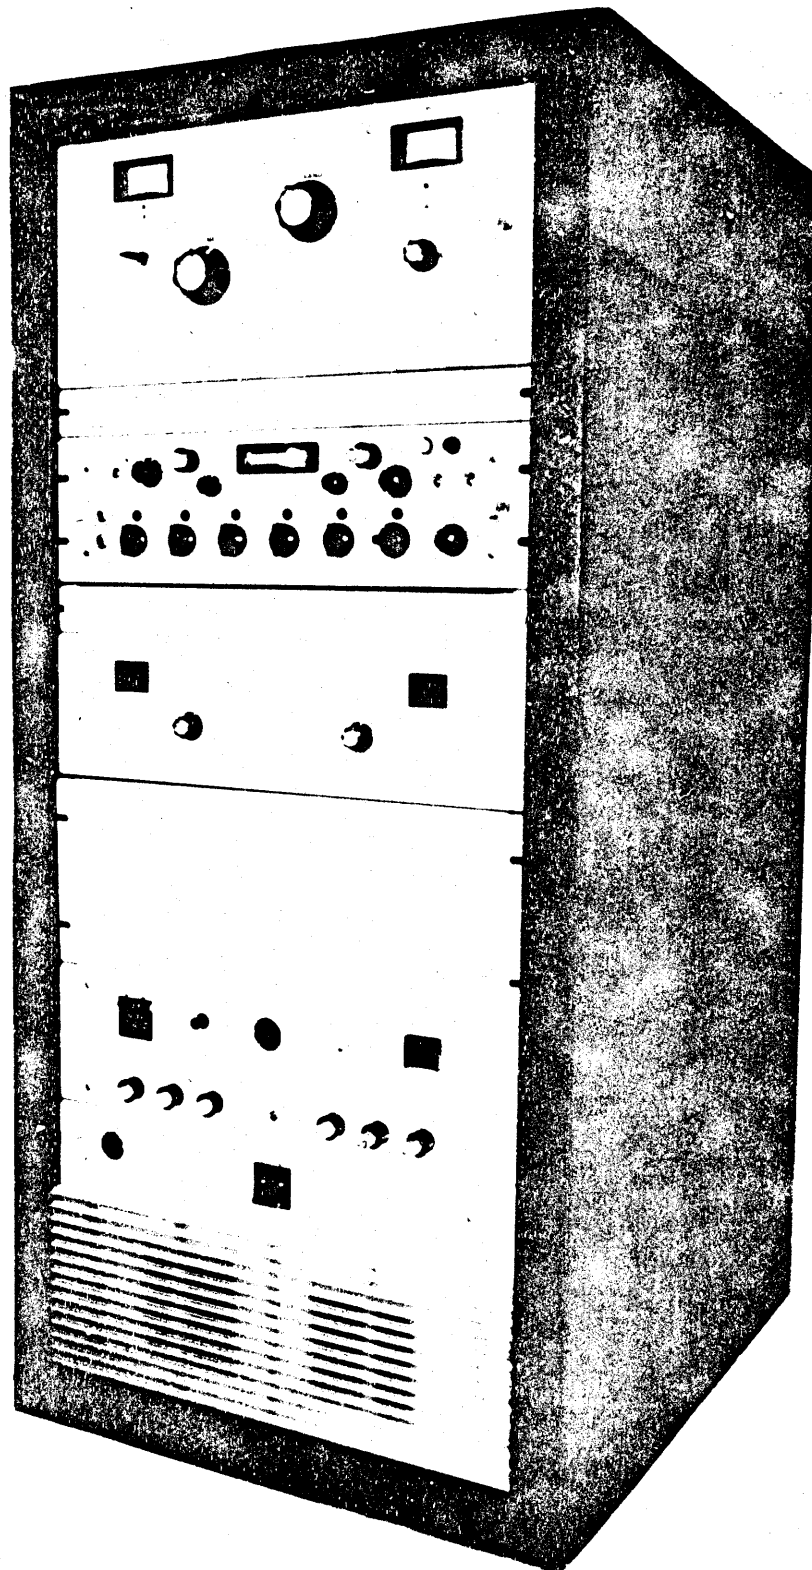

Figure 1-1. HFTA-1KJ2
The HFTA-1KJ2 shown in figure 1-1, is an automated one kilowatt transmitter, designed and manufactured by The Technical Materiel Corporation, Mamaroneck, New York. The automated one kilowatt transmitter HFTA-1KJ2 hereinafter referred to as the transmitter, consists of a solid state, multi-mode, exciter MMX(A)-2, used in conjunction with a high frequency linear power amplifier HFLA-1K. The exciter is capable of providing CW (carrier wave), AM (amplitude modulation), SSB (single sideband) including AME (amplitude modulation equivalent), ISB (independent sideband), FSK (frequency shift keying) and FAX (facsimile) modes of operation. The linear power amplifier amplifies the exciter output to provide 1 kilowatt peak envelope power or average power throughout the frequency range of 2.0 MHz to 30 MHz.
As shown in figures 1-1 and 1-2, the transmitter consists of a single equipment rack, which houses all of the transmitter components. The HFLA-1K portion of the transmitter consists of four individual units: (1) TLAA-1K, a three stage linear power amplifier, (2) AP-151, a low voltage and bias power supply, (3) AP-152, a high voltage power supply, and (4) AX-5130, a unit which contains all of the control and sensing circuitry for automatic tuning of the transmitter.